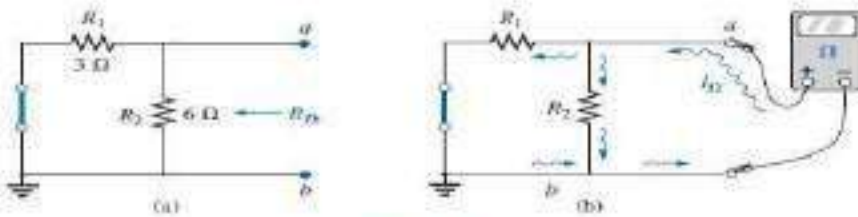

FIG. 9.28
Step 3: Replacing the voltage source E_1 with a short-circuit equivalent yields the network in Fig. 9.28(a), where
level of the resulting voltage to establish the measured resistance level. In Fig. 9.28(b), the trickle current of the ohmmeter approaches the network through terminal a , and when it reaches the junction of R_1 and R_2 , it splits as shown. The fact that the trickle current splits and then recombines at the lower node reveals that the resistors are in parallel as far as the ohmmeter reading is concerned. In essence, the path of the sensing current of the ohmmeter has revealed how the resistors are connected to the two terminals of interest and how the Thévenin resistance should be determined. Remember this as you work through the various examples in this section.